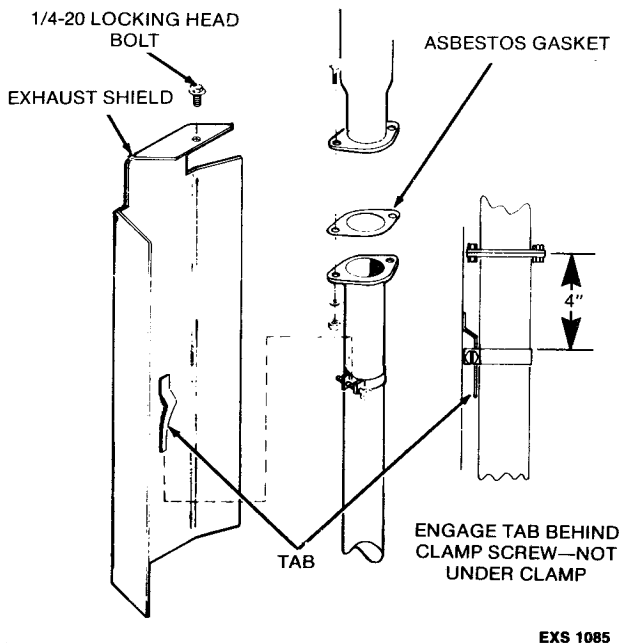

FIGURE 3. EXHAUST SHIELD TAB ENGAGEMENT
**Disassembly:** Remove the 1/4 inch locking head bolt that secures the top of the downpipe shield to the exhaust manifold shield. Remove the downpipe shield by pulling it upward and outward until the tab (see Figure 3) is disengaged from the clamp screw. Remove the three 1/4 inch locking head bolts that secure the exhaust manifold shield to the mounting brackets and scroll and lift off the manifold shield. The manifold shield mounting brackets and heat shield clamp may be left attached unless complete disassembly is required.
**Assembly:** Secure the exhaust manifold shield to the mounting brackets and scroll using three 1/4 inch locking head bolts. Install the downpipe shield by engaging the tab (on inside of shield) behind the clamp screw on the downpipe. The clamp screw must be positioned on the outside of the downpipe as shown in Figure 3.
Secure the top of the shield by installing the top 1/4 inch locking bolt in the exhaust manifold shield. If the downpipe shield is loose, adjust the clamp higher up on the downpipe as shown in Figure 3 and tighten securely. Recheck and tighten any loose bolts.